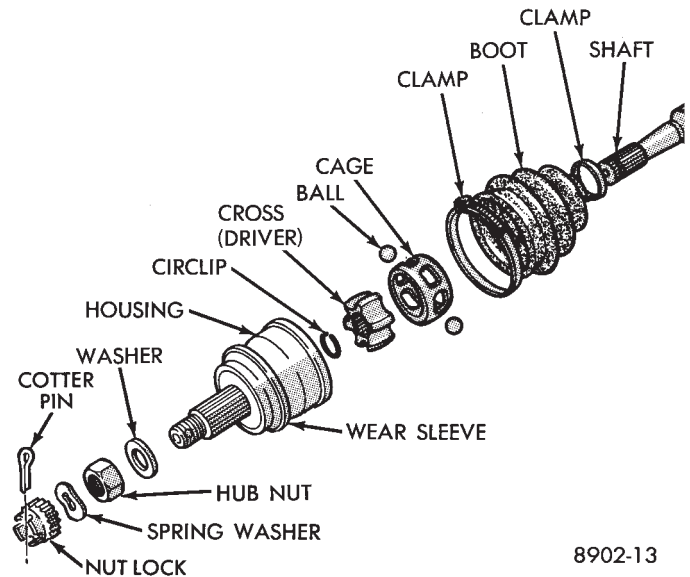

Fig. 1 Outer C/V Joint Components
(1) Remove boot clamps on boot and discard (Fig. 1).
A wear sleeve installed on the outer C/V joint housing (Fig. 1) provides a wipe surface for the hub bearing seal (installed in the steering knuckle).